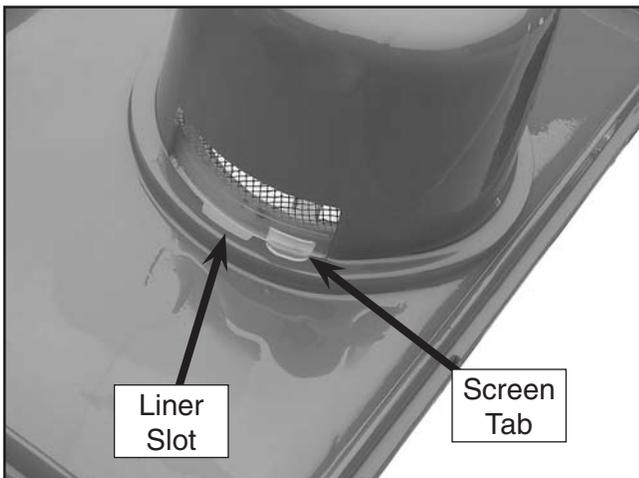

Figure 18. Screen tab and liner slot to align when removing the screen.
4. Remove the screen from the plastic liner by rotating it to align the screen tab with the liner slot as viewed from the underside in **Figure 18**.